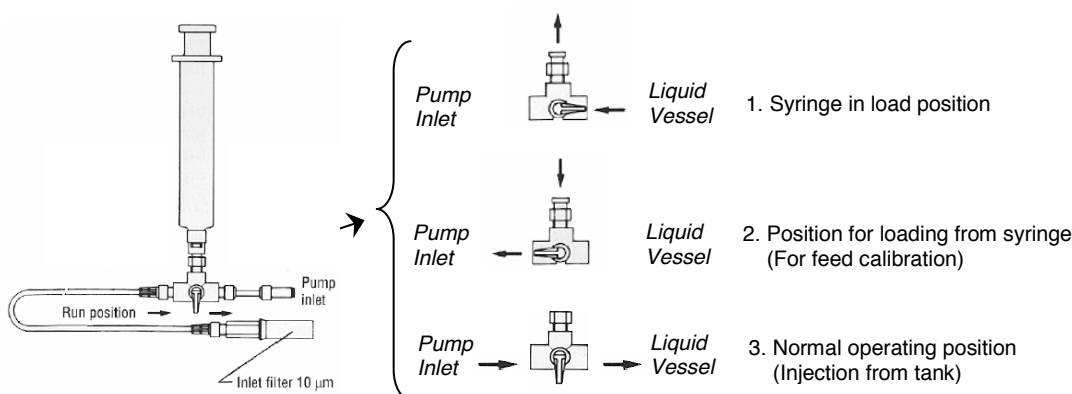

Figure 4-20
- With the valve in the position "load syringe" (Figure 4-20, position no. 1), draw on the syringe's plunger, thereby introducing liquid inside, removing air bubbles from the feed line.
- Set the valve to the position "Injection from syringe" (Figure 4-20, position no. 2) and press the "**Prime**" key on the keyboard. The pump will then begin to pump liquid at its maximum speed. Press the plunger on the syringe until no air bubbles can be seen at the pump inlet and liquid reaches the outlet.
- Set the valve to its normal operating position (Figure 4-20, position no. 3). When no more air bubbles are observed at the outlet on the liquids pipe, press the "**Stop**" function key to finish venting the pump.